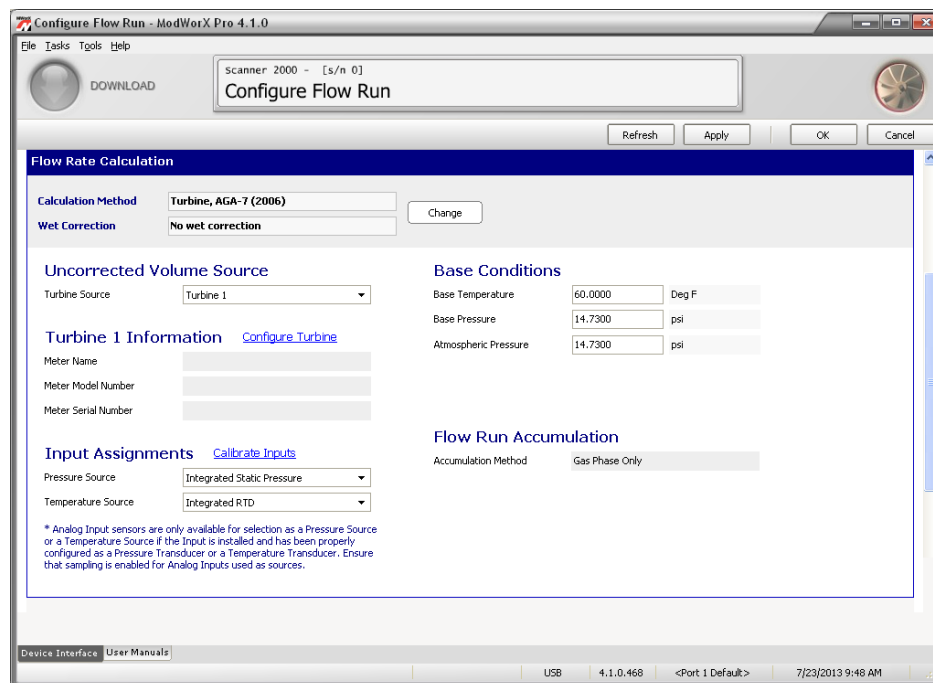

Figure 4.11
1. Under Uncorrected Volume Source, select the turbine source (Turbine 1), as shown in Figure 4.11, page 62. If an optional expansion board is installed in a Scanner 2000, two turbine inputs are available for selection. If a Scanner 2200 is installed, these turbine inputs will be displayed without an additional expansion board.